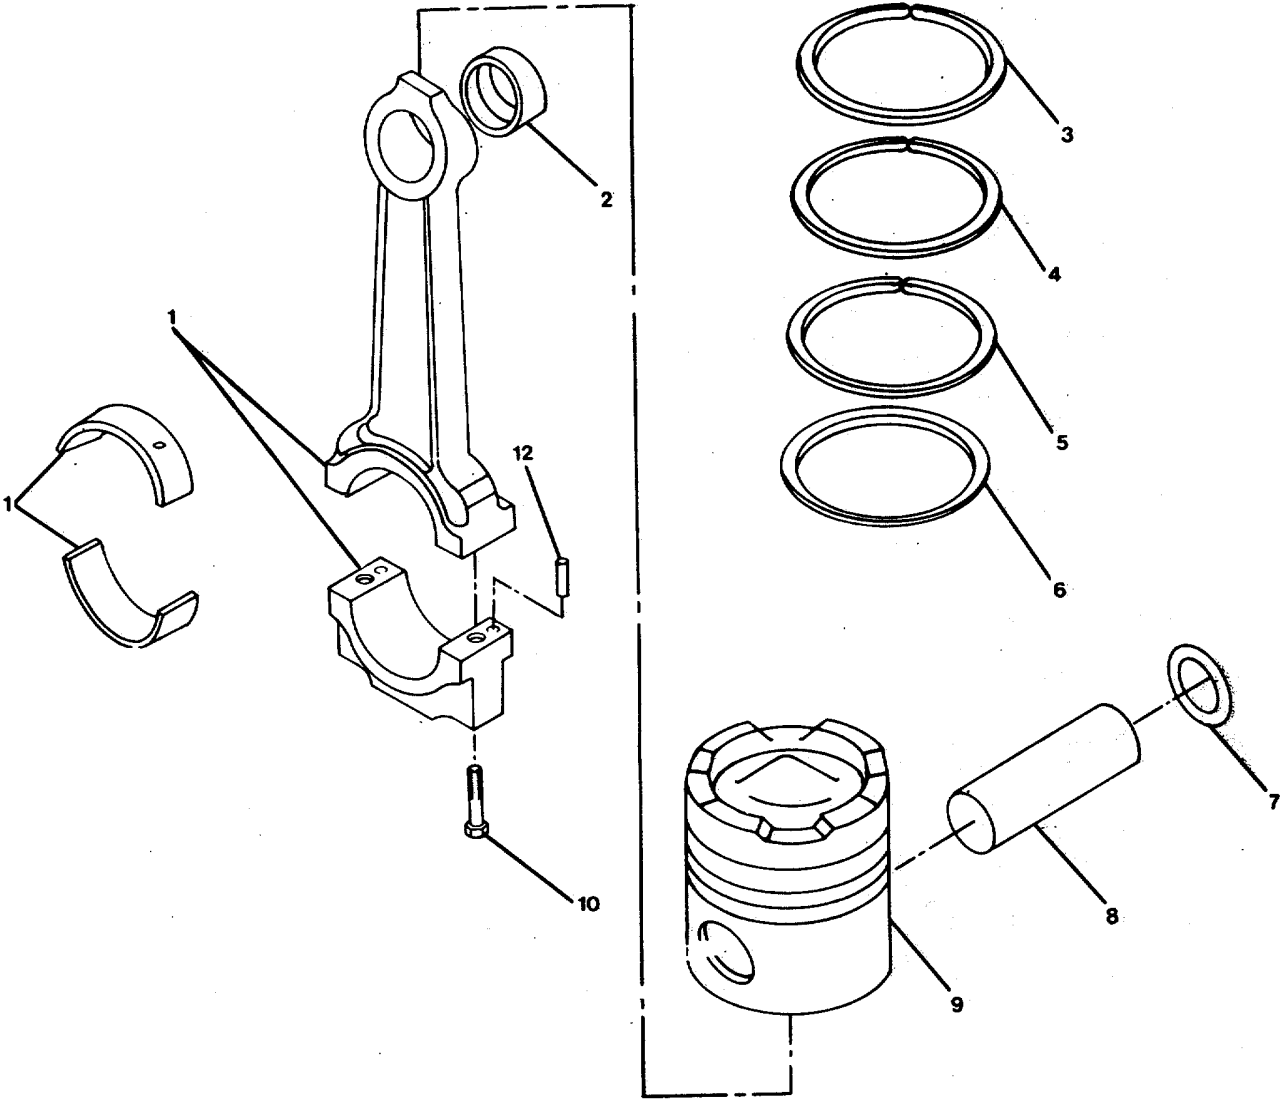
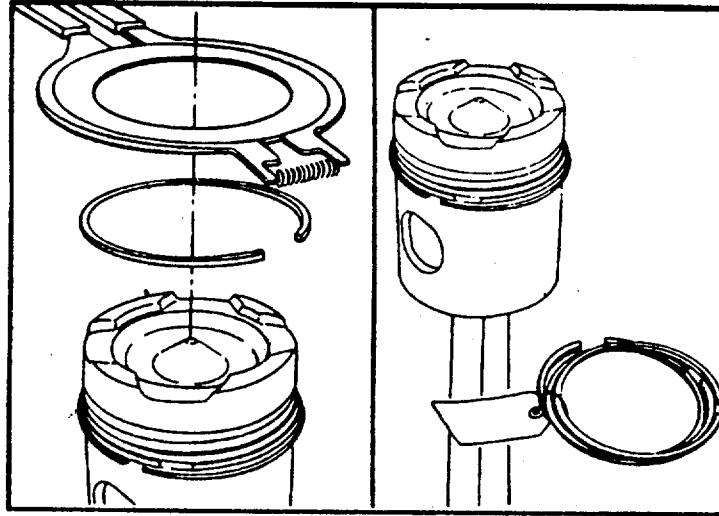

FIGURE 4-31. Connecting Rod and Piston Group.
FIGURE 4-32. *Removing Piston Rings.*
- a. Disassemble the engine connectings rods as follows (1, FIGURE 4-31):
- (1) Remove the machine bolts (10) and separate the connecting rod (1).
- (2) Remove the bearings (11).
- (3) Mark the cylinder number and the letter "u" in the flat surface of the bearing tang.
- (4) Remove the (dowel) pins (12) from the connecting rods (1).
- b. Use the piston ring expander to remove the piston rings (FIGURE 4-32) .
- a. Inspect the connecting rod bearings (11, FIGURE 4-31) .
- (1) Clean the bearings (11) with solvent.
- (2) Visually inspect the rods (1), the connecting rod bearing saddles, and the machine bolts (10) for nicks, cracks, burrs, scratches, or fretting.
- (3) Visually inspect the bearings (11) for damage.
- (4) Visually inspect the bearing seating surface for nicks or burrs.
- (5) If nicks or burrs cannot be removed with a fine crocus cloth, the bearings (11, FIGURE 4-31) must be replaced.
- (6) Measure the rod bearing shell (11) thickness with an outside micrometer that has a ball tip.
- (7) The bearing thickness should be between 0.093 inches (2.362 mm) and 0.0947 inches (2.405 mm). Replace bearing shell (11) if it is not within these measurements.
- b. Clean and inspect the connecting rods (1).
- (c) Measure the crankshaft bore in the connecting rod (1, FIGURE 4-31) with a dial bore gauge. The connecting rods must have a crankshaft bore with a diameter between 3.3157 to 3.3167 inches (84.219 to 84.244 mm).
- (d) Measure the inside diameter of the piston pin bushing (2). Use a dial bore gauge. The inside diameter must measure between 2.0010 to 2.0022 inch (50.825 to 50.838 mm).
- (e) If the crankshaft bore is not correct, the connecting rod (1) must be machined to the correct size or replaced.
- (f) Discard all connecting rods (1) that have cuts, scratches or other damage that is deeper than 1/32 inch (0.80 mm) on the "I-Beam."
- (8) Calibrate the rod checking fixture, ST-561, and locating mandrel, ST-563, and check the connecting rod length.
- (e) Put the connecting rod (1) in the fixture. Move the dial holder so that the contact points of the indicators are touching the mandrel in the piston pin bore.